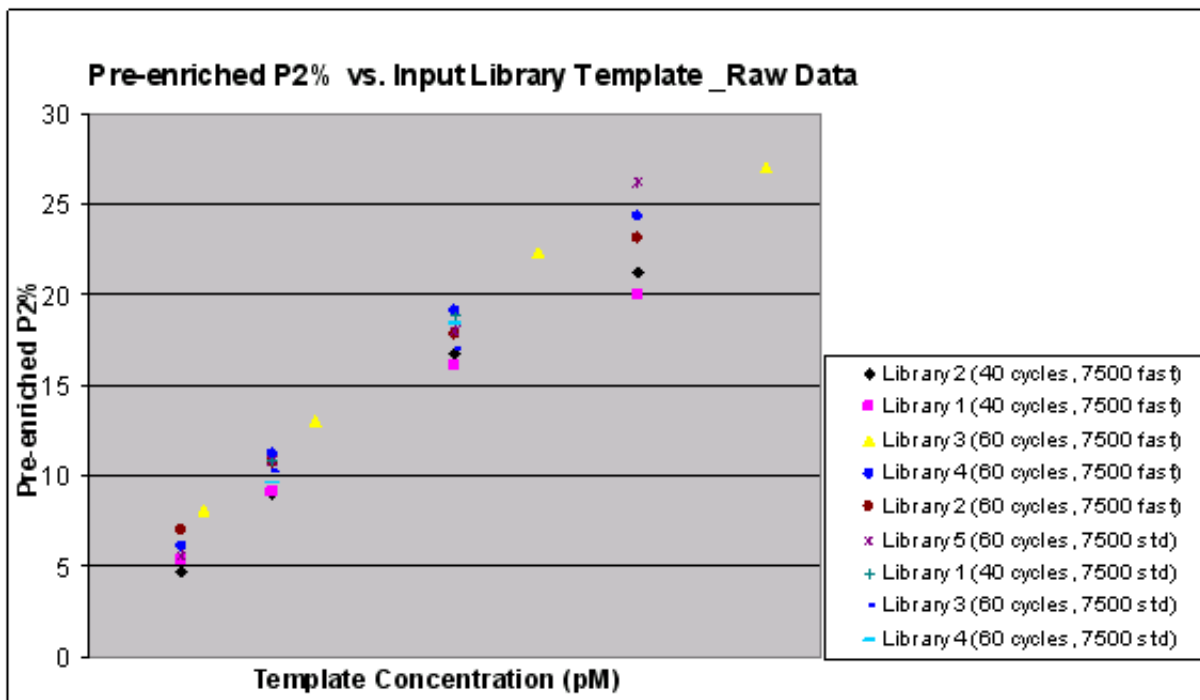

Figure 37 Plot of pre-enriched P2% against corresponding input DNA concentration.
2. After obtaining the stock concentrations by qPCR, all libraries were subjected to ePCR titration assays. In order to compare between the libraries, all concentrations were calculated in molar (pM) instead of mass (pg/ μ L). Two ePCR cycling conditions were employed: 40 cycles and 60 cycles. Amplified beads were recovered by standard ePCR process and pre-enriched $P2\%$ (coated beads/total beads) was measured by P2-Cy3 hybridization (see Table 16 on page 87, Table 17 on page 87, and Figure 37 on page 88).
- Two equations (I and II below) were generated by fitting the curves in Figure 37 to describe the relationship between pre-enriched P2% and the amount of input template after 40 cycles or 60 cycles of ePCR reactions: